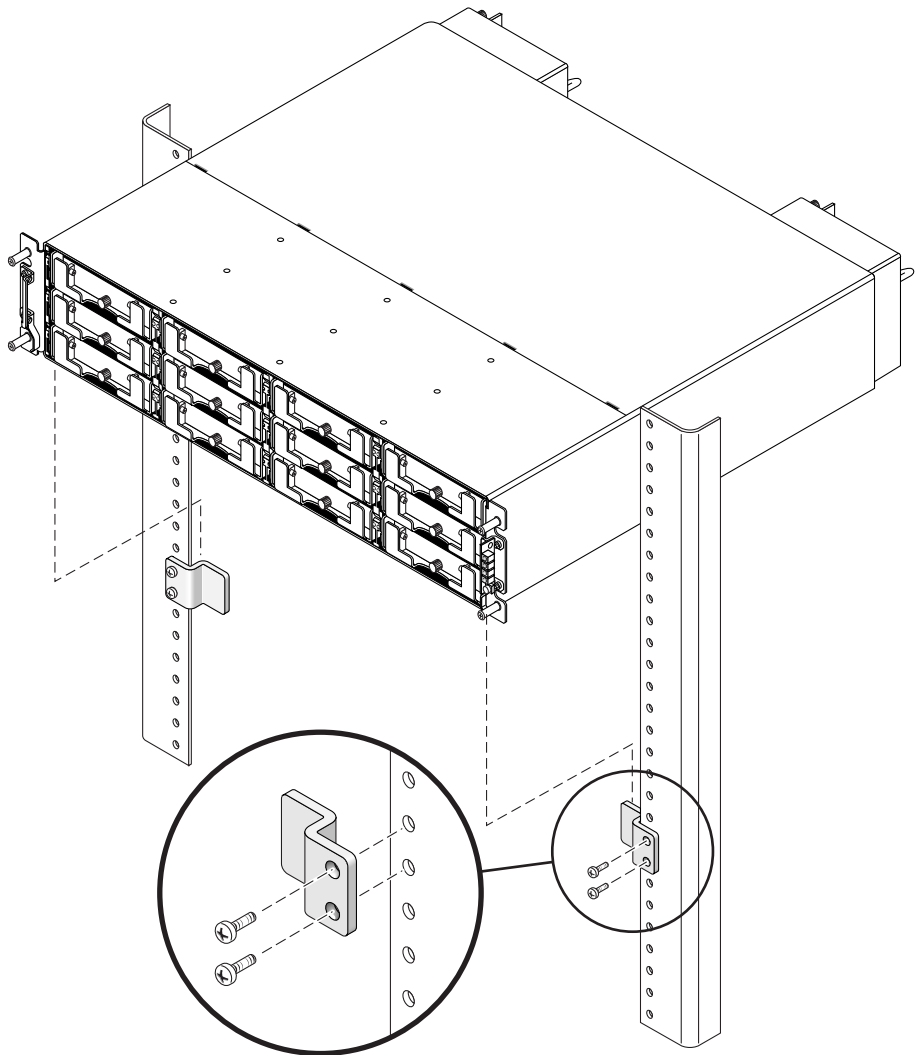

FIGURE 2-3 Front Bracket Position on the Rack Face
- a. Attach each front bracket to the rack face (See FIGURE 2-3):